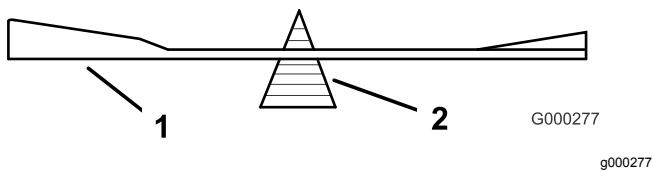

Figure 78
- Check the balance of the blade by putting it on a blade balancer (Figure 78).